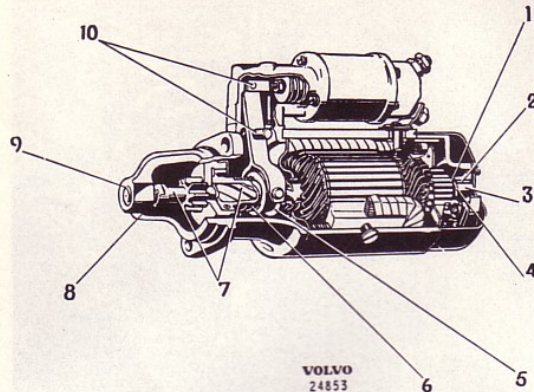

Fig. 67. Lubricating scheme for starter motor
2. Fit the starter pinion on the rotor shaft and then place on washers and circlip as shown in Fig. 44. Lubricate the rotor shaft in accordance with the instructions in Fig. 67.